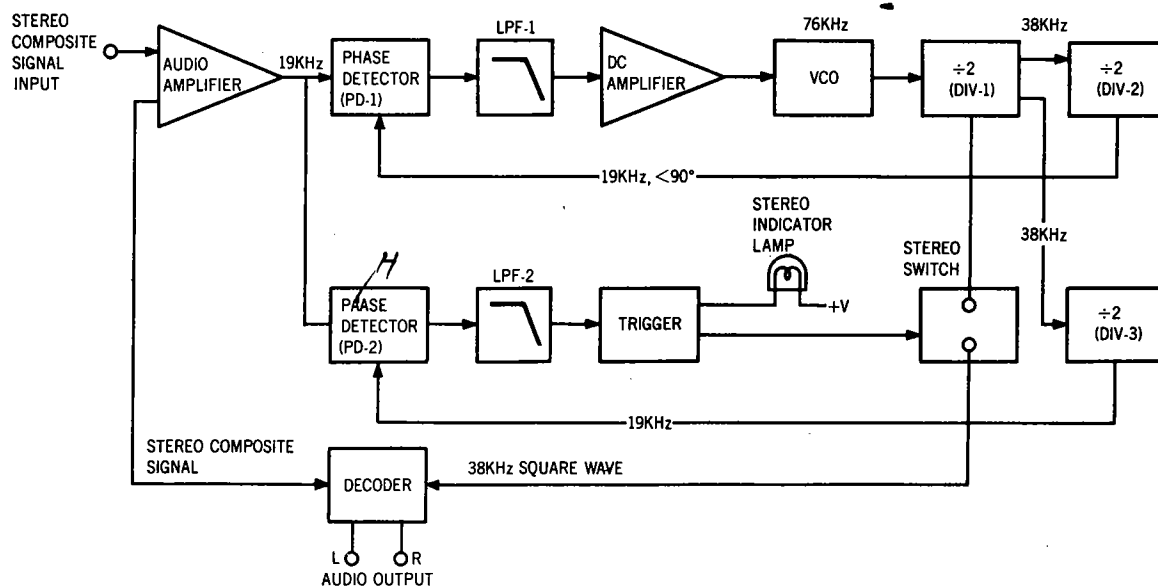

Figure 1. Block Diagram of the HA1156
The stereo composite signal from the buffer amplifier undergoes phase compensation by R301 and C201, is led through the muting switching FET H301 to the input terminal pin ② of the MPX stereo decoding IC H321 on PLL (Phase Locked Loop) basis, and is decoded into the left and right stereo signals, which become available at pins ④ and ⑤, respectively. These decoded left and right stereo audio signals are introduced through the low pass filter consisting of L301 to L304 and C311 to C320 for elimination of undesirable residual switching signal and through the de-emphasis network consisting of R325, R326, C321 and C322 to the npn-pnp direct coupled audio amplifier, where the signals are amplified to a required level for the output from J311 and J313. From these jacks, the audio signals are led through the function switch to the TAPE MONITOR OUT jacks. Figure 1 presents an internal block diagram showing the functions of the PLL basis MPX stereo decoding IC HA1156. The input stereo composite signal, amplified by the audio amplifier, is delivered to the phase detectors PD-1 and PD-2. A part of the stereo composite signal is also delivered to the stereo decoder section. The VCO (Voltage Control Oscillator) produces a free run oscillation in the neighborhood of 76kHz with the time constant determined by the capacitor C305 and resistors R311 and R312 set on the outside of pin ⑭. The VCO output has its frequency divided into 19kHz through the two frequency divider stages (DIV-1, DIV-2), and is reversed to the phase detector PD-1, which contains two input terminals designed to produce an output in proportion to the product of the two input signals. The signal led to one PD-1 input is a 19kHz square wave formed through frequency division of the 76kHz VCO output signal by the two frequency divider stages DIV-1 and DIV-2, and the 19kHz pilot signal included in the stereo composite signal as a reference signal is led to the other PD-1 input. Therefore, the output of the PD-1 which has passed through the low pass filter LPF-1 provides DC output voltage in proportion to the phase variance between the two inputs. This DC output voltage is amplified by the DC amplifier, and is supplied to the 76kHz VCO as a control voltage. This means that the output frequency and phase of the VCO have been phaselocked to the input pilot signal. The 38kHz sub-carrier reproduced by the PLL, as stated above, is delivered through the stereo switch to the stereo decoder section as switching signal, thus driving the decoder stage. One PD-2 input is given the 19kHz resulting from the frequency division completed by the DIV-1 and DIV-3, whereas the other input gets the 19kHz output contained in the composite signal, and the output is provided with a DC output in proportion to the amplitude of the pilot signal.